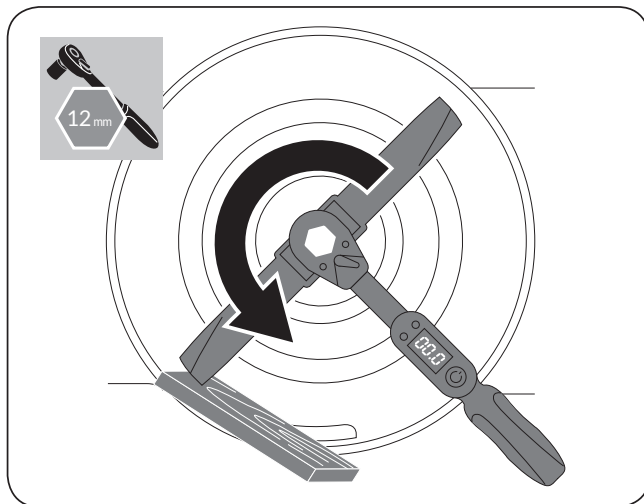

Figure 27
- Tip the machine onto its side with the air filter and carburetor facing up. Use a block of wood to hold the blade steady. (See **Figure 27**)